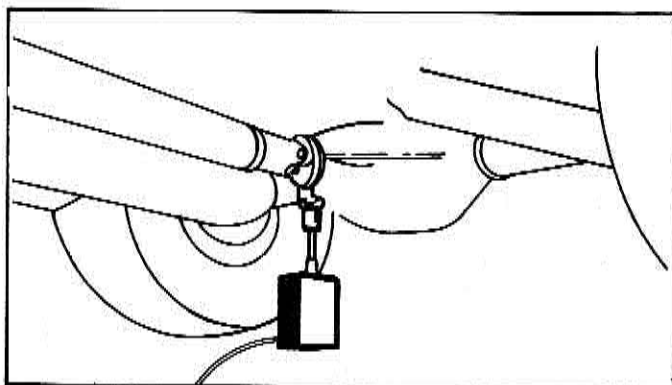

Figure 4-7 — Strobe Light Wheel Balancer Pick-up Unit
3. Place the strobe light wheel balancer pick-up unit directly under the differential pinion nose as far as possible. (See Figure 4-7.) Repeat this step at each carrier bearing support (for two, three or more drive shaft units).